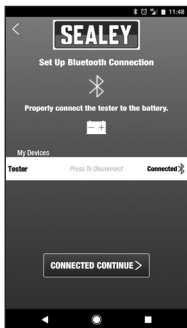
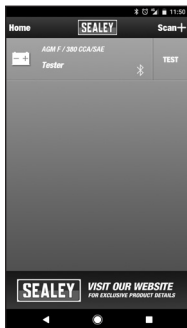
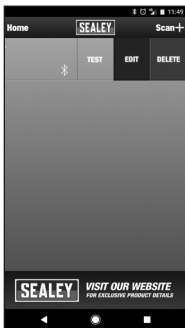
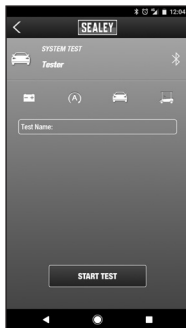

fig.6
fig.7
fig.8
fig.9
- 7.1.4. When connected, press "CONNECTED CONTINUE" (fig.6). In this screen, the user may create a name for the tester. (fig.9) Swipe the "TEST>" area (fig.7) of the active tester to bring up the Edit option. (fig.8)